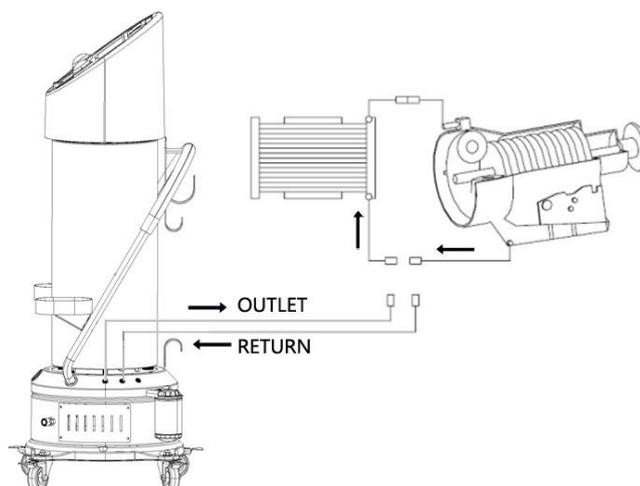

Fig.14
- 2.7 Connect two oil hoses of the equipment with the transmission; The recharge hose in fluid outlet port A is connected to the inlet of transmission, and the return hose in fluid return port B, to the outlet of transmission (Fig.14);
- 3.2 If there is no new oil adding port in the transmission, connect the recharge hose in fluid outlet port A to the inlet of transmission (Fig.14); the fluid inlet port B remains unconnected. Connect one end of the cleaning fluid hose to oil adding port(cleaning fluid inlet) of the equipment, the other end, to an external cleaning fluid barrel, and then turn the switch valve to 'add new oil to equipment' (Fig.10). Start the equipment. Select 'Operation'→'Automatic Operation'→'Add New Oil to Equipment'→ set the adding amount → Start; then the equipment will automatically transfer cleaning fluid into the transmission.